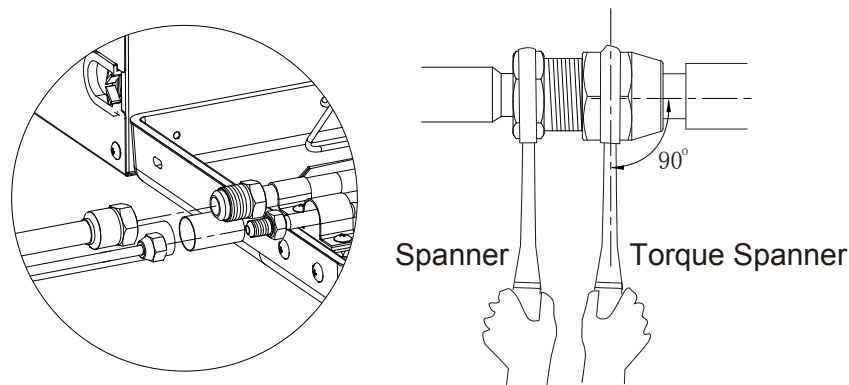

Fig.29
- (1) Conform to the following principles during piping connection: Connection pipeline should be as short as possible. The height difference between indoor and outdoor units should be as short as possible. Keep number of bends as little as possible. The radius of curvature should be as large as possible.
- (2) Weld the connection pipes between indoor and outdoor unit. Please strictly conform to the requirements for welding process. Rosin joints and pin holes are not allowable.
- (3) When laying the pipes, be careful not to deform them. The radius of bending parts should be more than 200mm. The pipes can not be repeatedly bent or stretched, otherwise the material will get harder. Do not bend or stretch the pipe over three times at the same position.
- (4) Please use a torque wrench to connect union nut on the indoor unit. See Fig. 29.